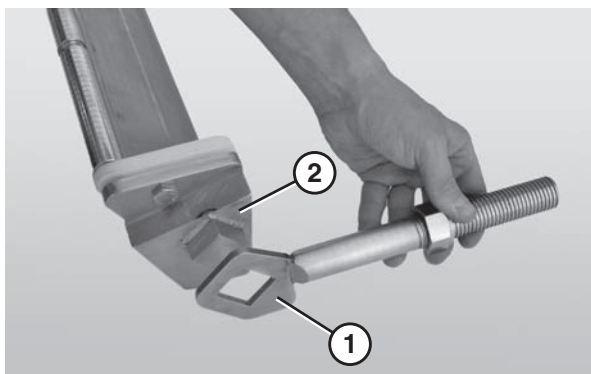

Figure 77
3. Slide the nose bar shafts (**Figure 77, item 1**) off of the nose bar weldment (**Figure 77, item 2**).